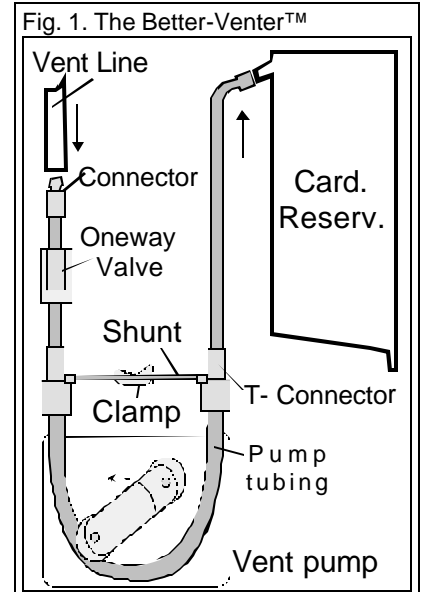

Fig. 2. Typical Flows and suction generated with the BV
1. Suction is ADJUSTABLE by varying pump speed, see Fig. 2.
Maximum generated suction can be by adjusted by changing pump speed, see Fig. 2.